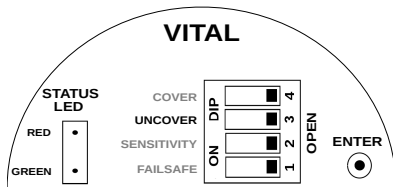

Figure 16: Saving Uncover Delay
4. Uncover Delay is entered, but not saved. To save and test the Uncover Delay, set the UNCOVER switch back to OPEN position as shown in figure 16.